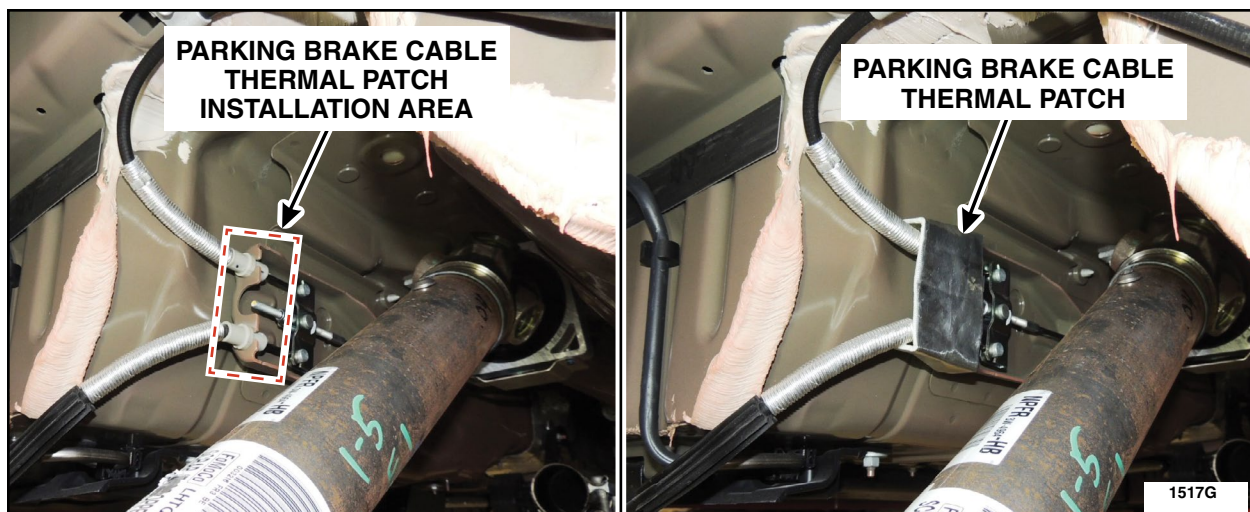

FIGURE 8
10. Apply *new* thermal patch over the parking brake cable retention collars. See Figure 8.